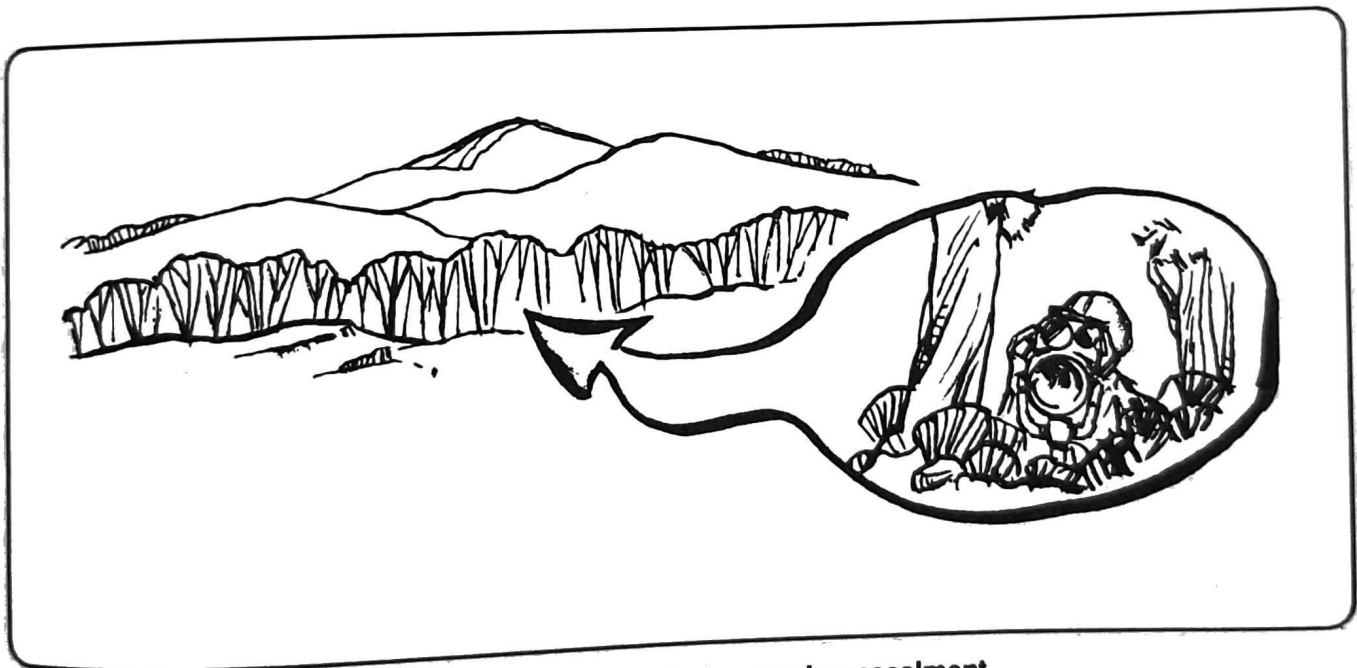

Figure 3-4. Use of natural cover and concealment.
(1) Use natural cover and concealment. Use the terrain for cover from enemy fire and for concealment from enemy ground and aerial observation. (See Figure 3-4.)